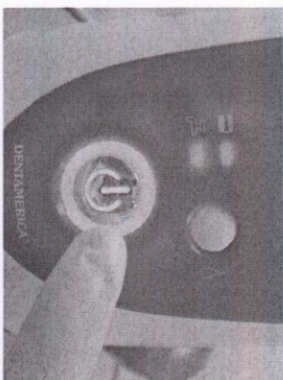

Figure 11
1. Press the  button on the front panel (Figure 11).